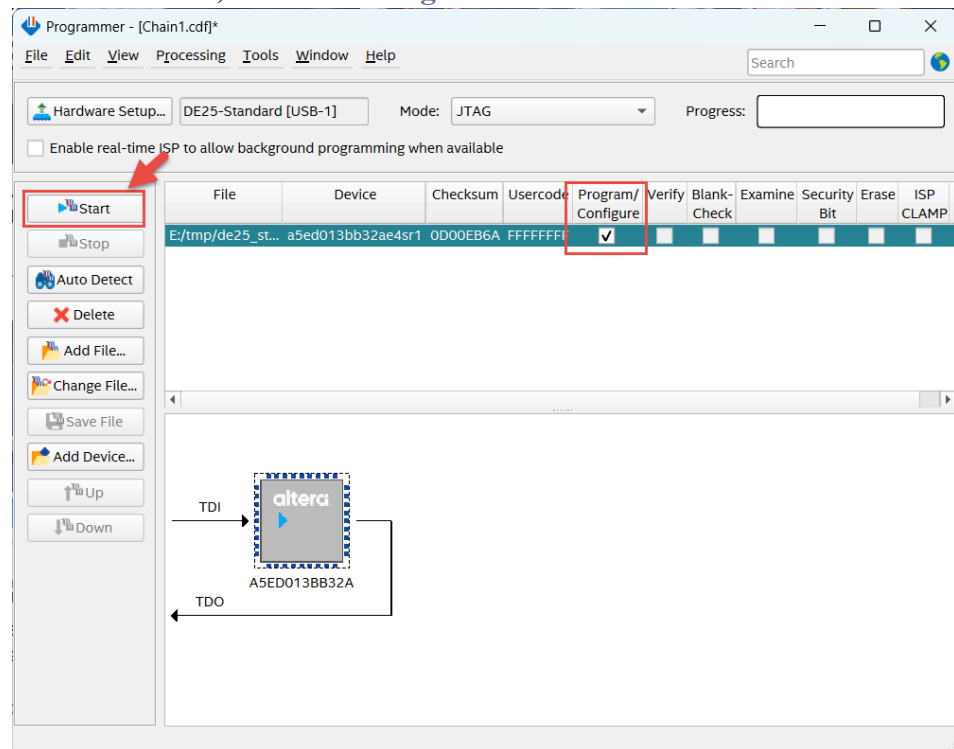

Figure 3-8 Program .sof file into the FPGA device
9. Click the “Program/Configure” checkbox and click “Start” button to download the .sof file into the FPGA device, as shown in **Figure 3-8**.